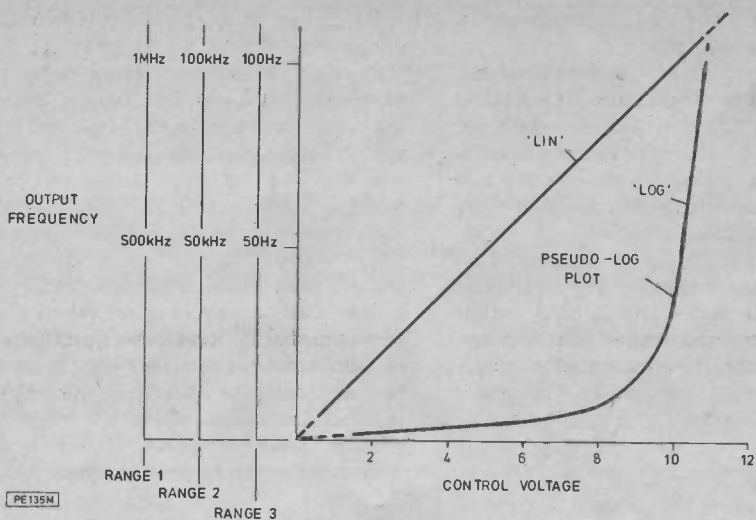

Fig. 6. Typical output frequency for each range, versus "lin" and "log" input control voltages
at which the peak-to-peak voltage falls to 71 per cent of its mid-band (or maximum) level. The X (horizontal) axis of the scope which is normally calibrated in "time" can be re-calibrated in "frequency". Fig. 6 shows a practical example of a frequency/voltage plot relating the generator output frequency to the "Lin 2" pin voltage.
Then, with the 'scope triggered from the module's sync. output and displaying across the screen one full sawtooth waveform from the "LIN 2" pin (not from the sawtooth output pin), the 'scope X axis (horizontal) can be calibrated or marked in voltage, by reading off the trace against the normal vertical (Y) voltage axis. (Note: on some 'scopes it will be possible to set the X-axis scale most conveniently to one volt/centimetre). This calibration can then be converted to "instantaneous output frequency" by reference to the frequency/voltage relationship recorded above, which, being similar to Fig. 6 will give a calibration close to
Also since the control-voltage/output-frequency relationship is linear (as shown by Fig. 6), then a logarithmic frequency sweep along the X-axis can be achieved by applying a logarithmic voltage sweep to the "Lin 1" pin.